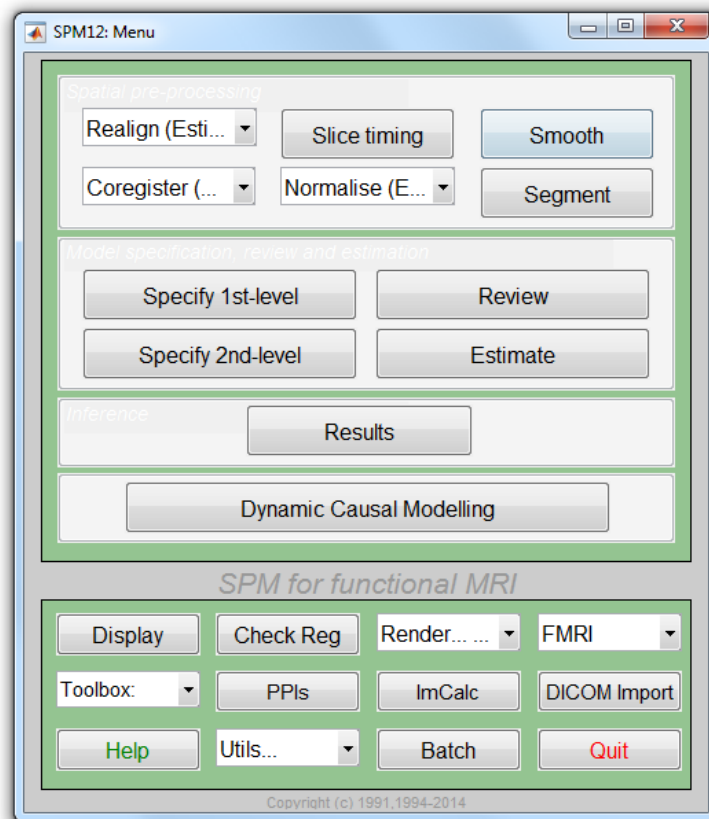

Figure 31.1: The SPM base window comprises three sections *i)* spatial pre-processing, *(ii)* model specification, review and estimation and *(iii)* inference.
Start up MATLAB enter your `jobs` directory and type `spm fmri` at the MATLAB prompt. SPM will then open in fMRI mode with three windows (see Figure 31.1): (1) the top-left or “Menu” window, (2) the bottom-left or “Interactive” window and (3) the right-hand or “Graphics” window. Analysis then takes place in three major stages (i) spatial pre-processing, (ii) model specification, review and estimation and (iii) inference. These stages organise the buttons in SPM’s Menu window.